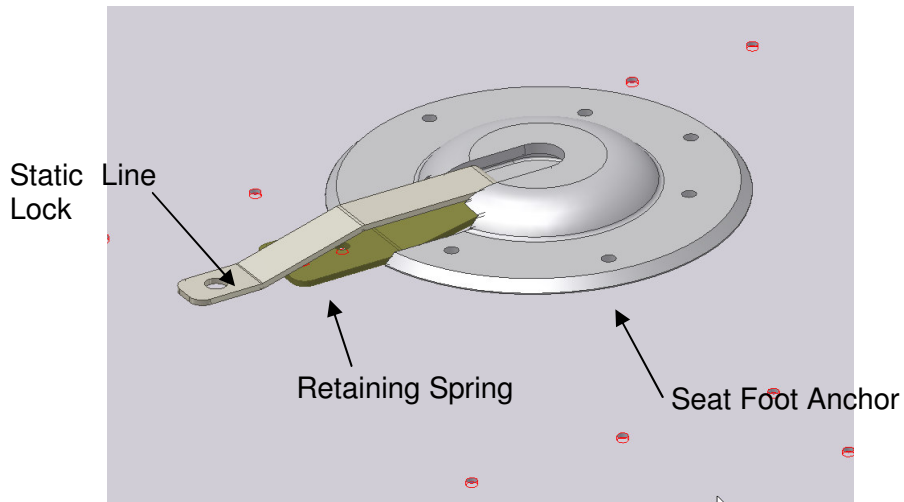

Figure 2 Static Line Lock
- 2.2. Position the Static Line Lock, item 26 such that the upright leg is between the static line foot and the retaining spring. See Figure 2.
- 4.1 Depress the retaining springs (shown in Figure 2) of the static line locks above the door on the inside with the footings of the handle.